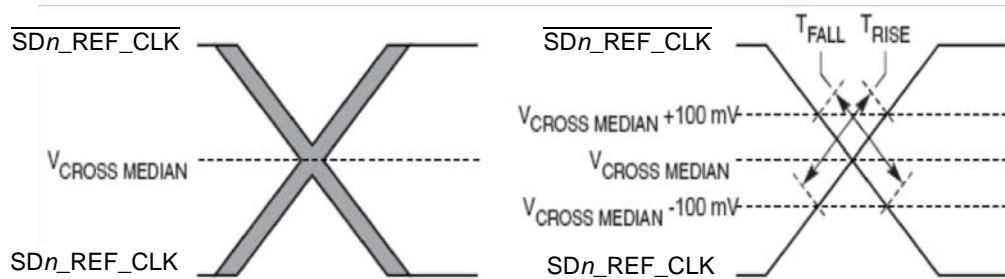

Figure 53. Single-Ended Measurement Points for Rise and Fall Time Matching
4. Matching applies to rising edge rate for SDn_REF_CLK and falling edge rate for $\overline{SDn_REF_CLK}$. It is measured using a 200 mV window centered on the median cross point where SDn_REF_CLK rising meets $\overline{SDn_REF_CLK}$ falling. The median cross point is used to calculate the voltage thresholds the oscilloscope is to use for the edge rate calculations. The Rise Edge Rate of SDn_REF_CLK should be compared to the Fall Edge Rate of $\overline{SDn_REF_CLK}$, the maximum allowed difference should not exceed 20% of the slowest edge rate. See Figure 53.